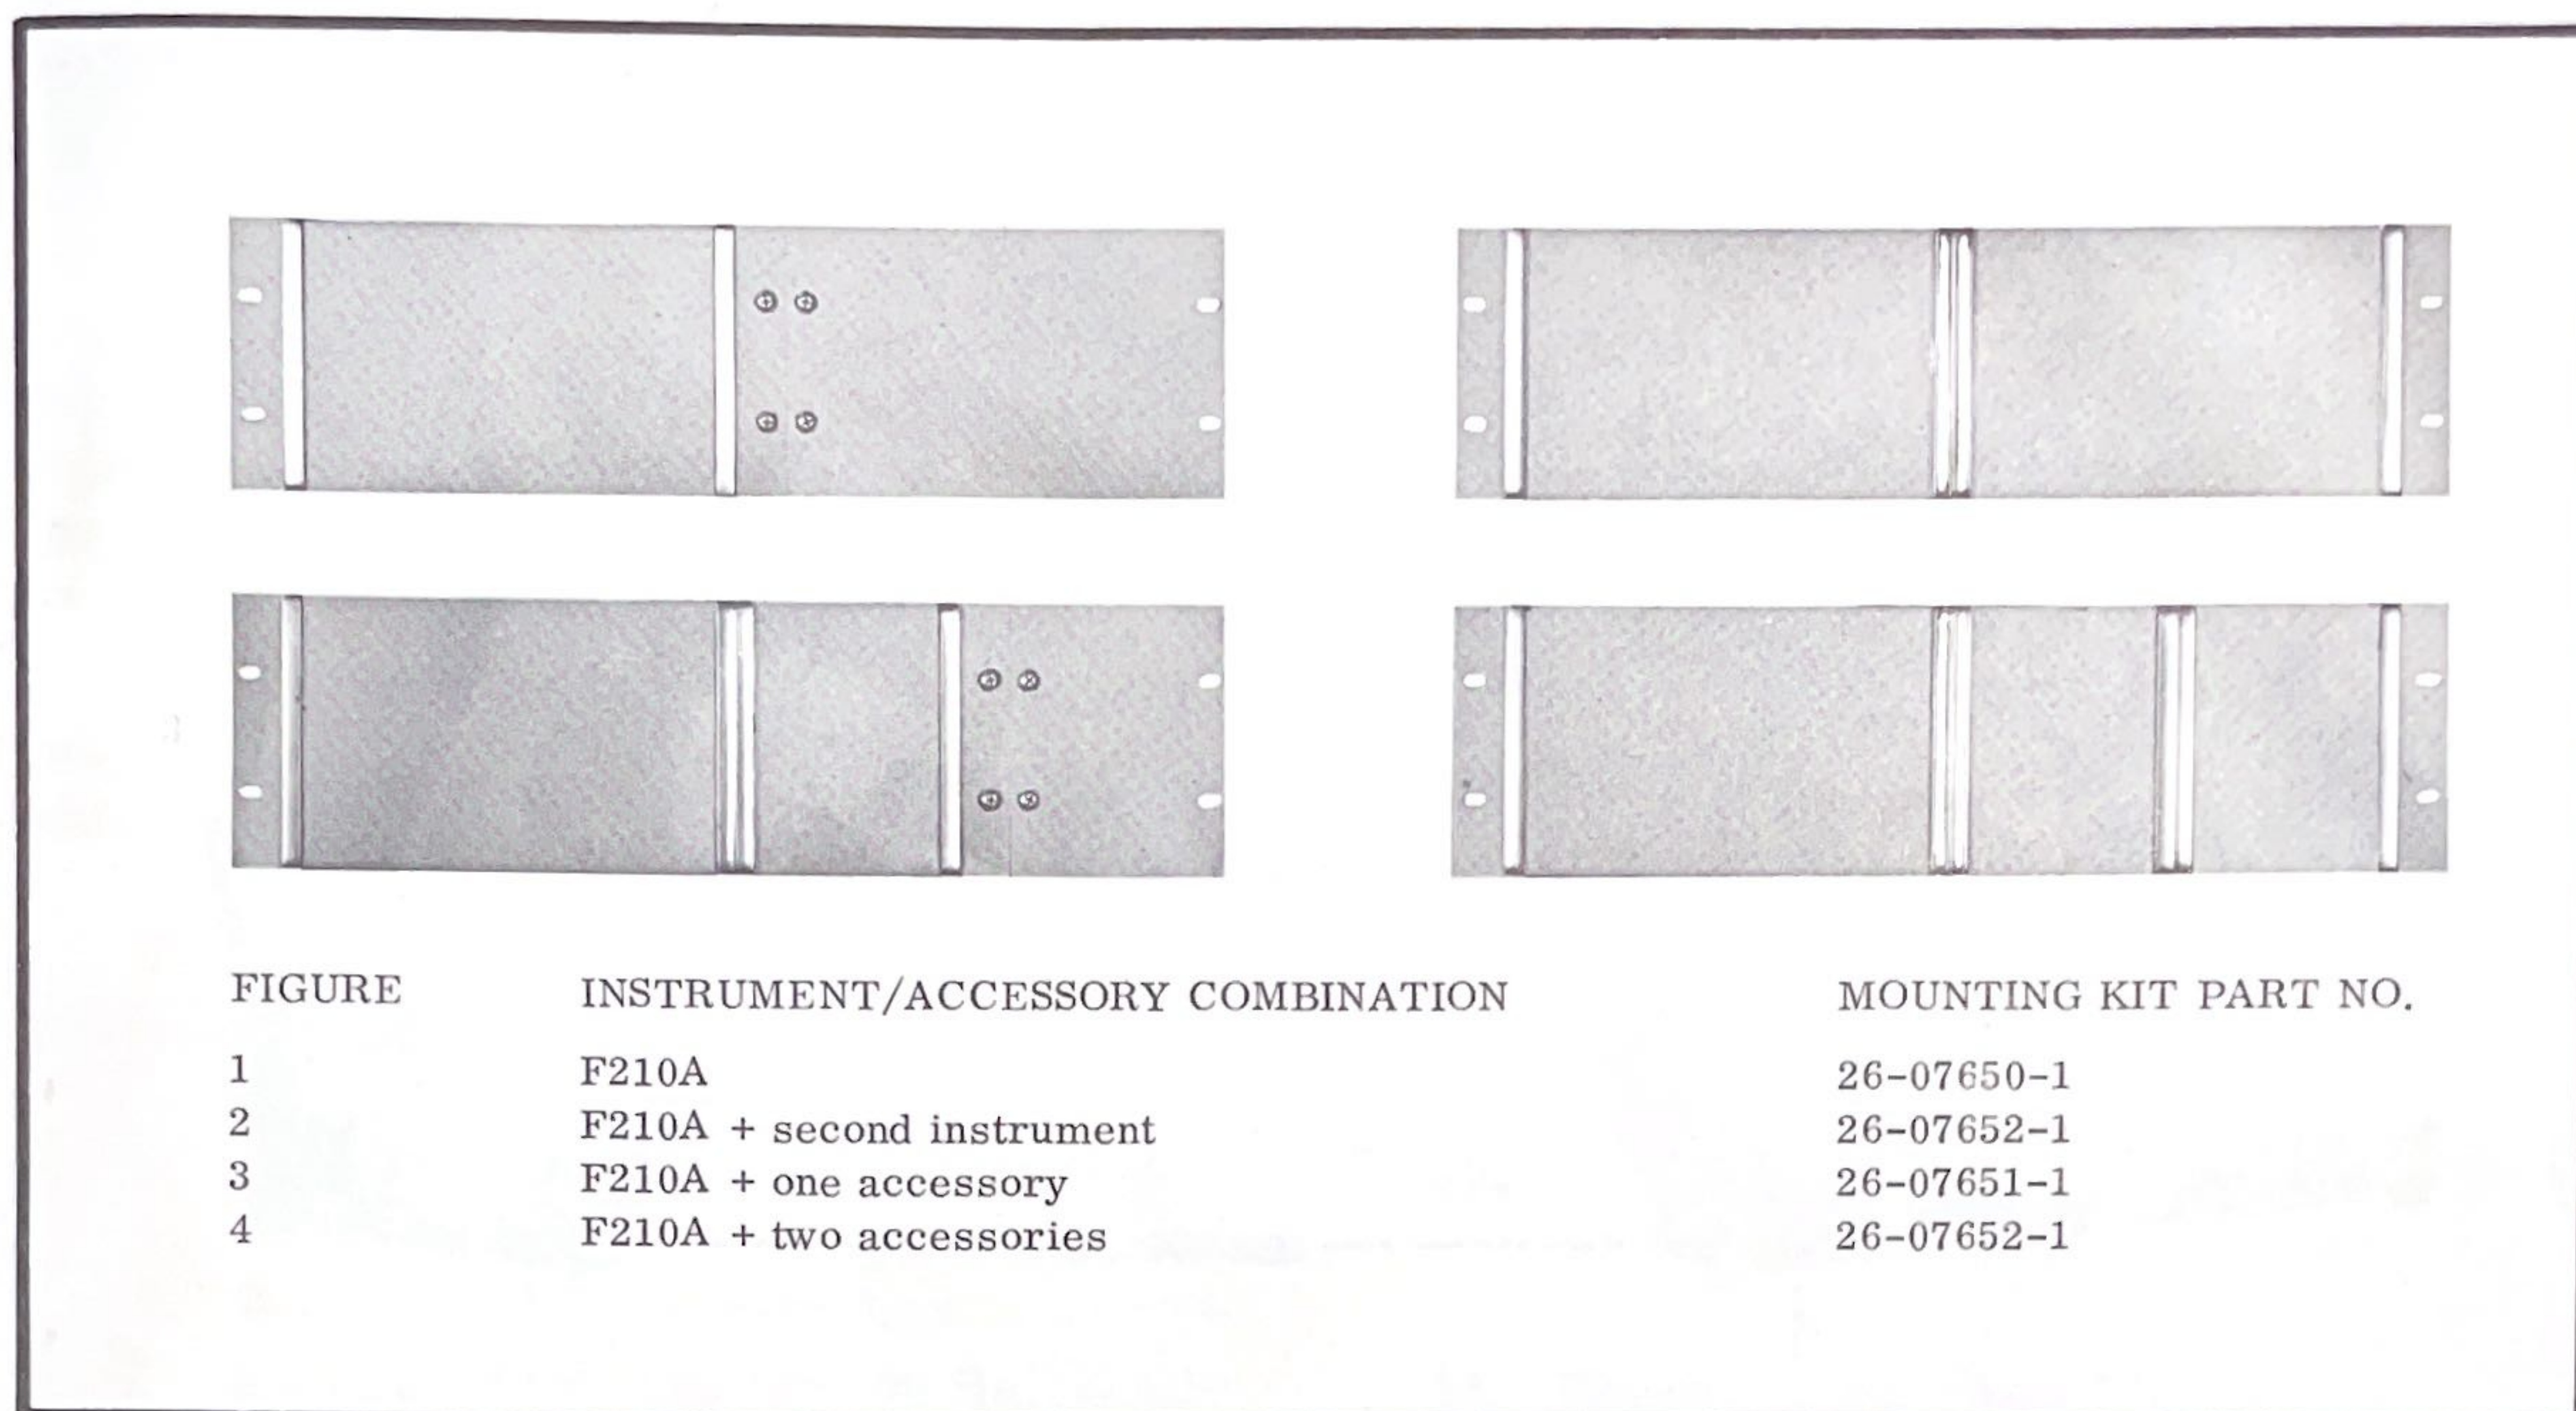

FIGURE 2-2
Each Generator can be combined with any other Data Royal 1/2 rack instrument, or with any Data Royal Series 900 Accessory, for ease of handling and conservation of space. With the appropriate Rack Mounting Kit, (4) combinations of instruments can be mounted in a single 5 1/4 inch space. (See Figure 2-2).